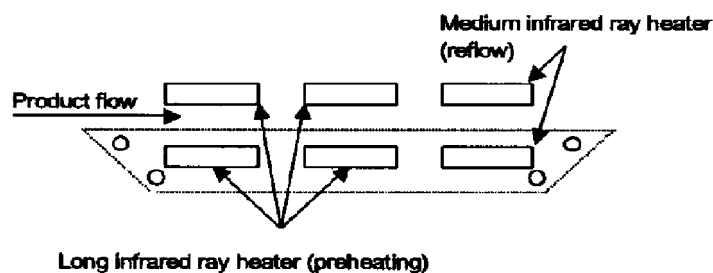

Figure 1. Heating the top and bottom with long or medium infrared rays
(1) Heating the top and bottom with long or medium infrared rays is recommended. (See Figure 1.)